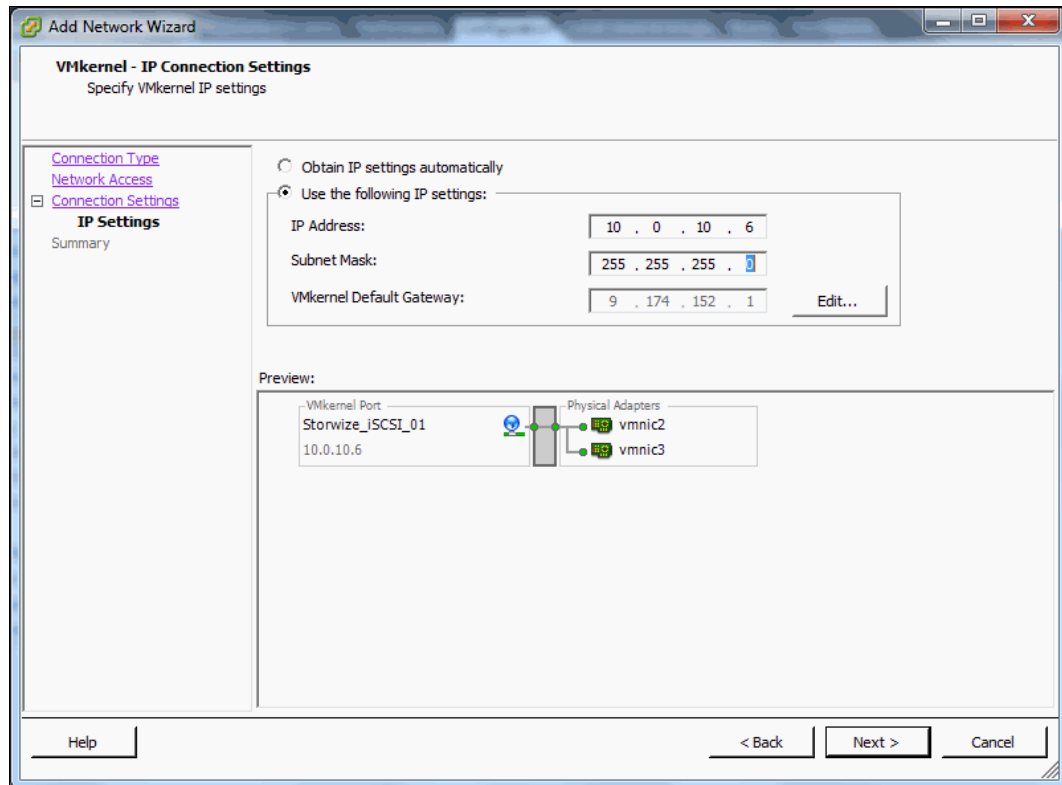

Figure 4-21 Configuring IP settings for the new VMkernel port
8. Enter an IP address for your iSCSI network. You should use a dedicated network for iSCSI traffic, as shown in Figure 4-21.